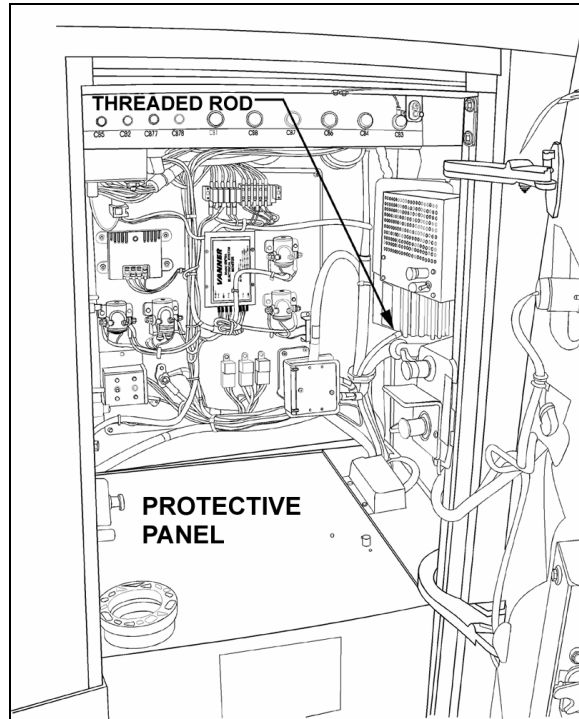

FIGURE 3 : MAIN POWER COMPARTMENT
2. Ensure no cables are rubbing against threaded rod located underneath "Vanner" battery equalizer (refer to figure 3). Secure cables using cable ties if required.
3. Remove battery protective panel and verify that cables are secure and in good condition, tighten if needed (torque is indicated on battery label) (refer to figures 3 and 4). Also check that holding clamps protective coating is present and in good condition. Reinstall panel and close the door.